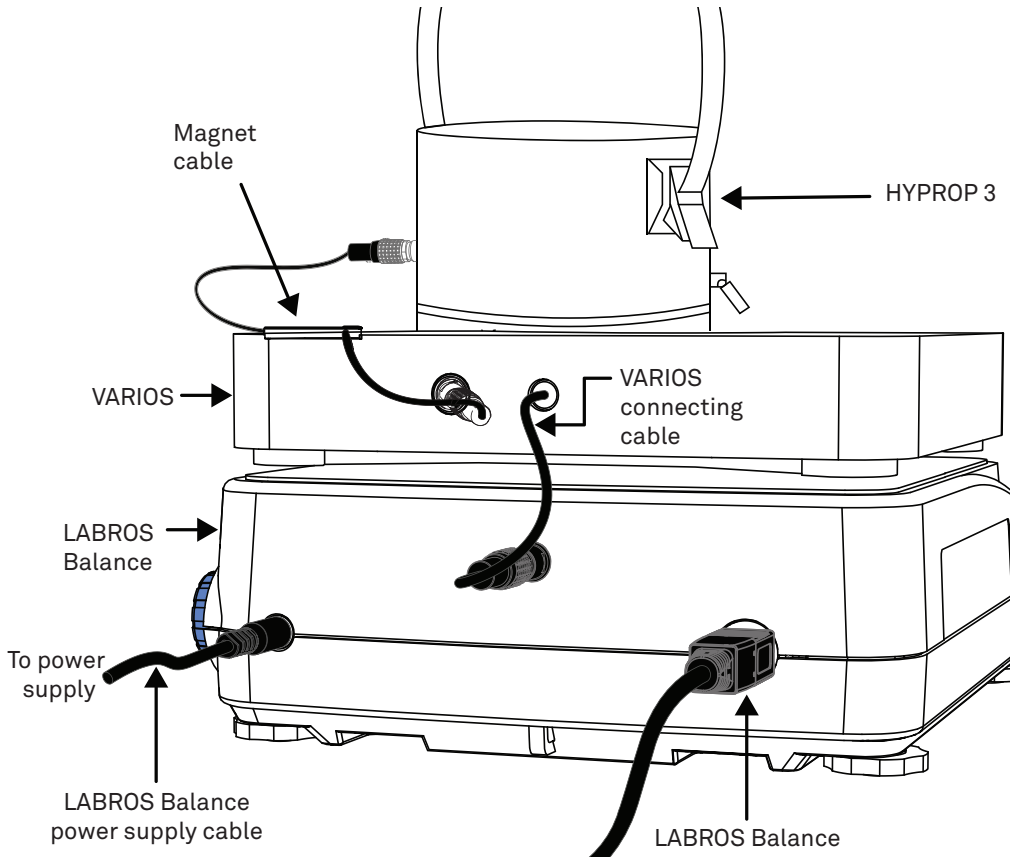

Figure 20 Connecting HYPROP sensor unit
9. Place the HYPROP sensor unit in the middle of the circle on the Balance and connect it to the magnet cable (Figure 20).